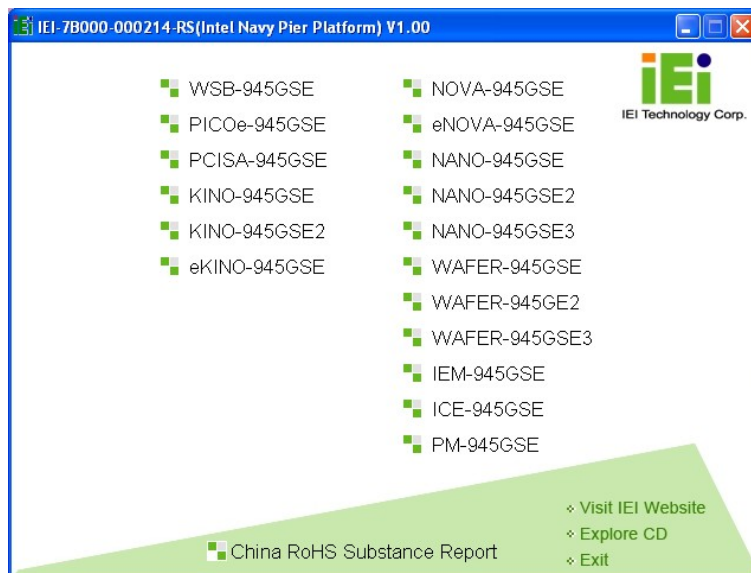

Figure 6-1: Start Up Screen
Step 2: The screen in Figure 6-1 appears.